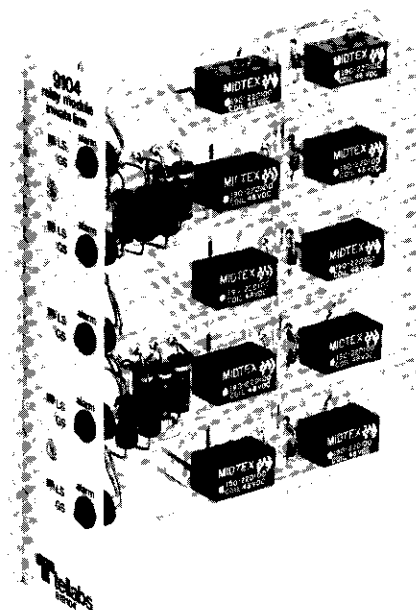

figure 1. 9104 INWATS Line Relay Module
1.01 The 9104 INWATS Line Relay Module (figure 1) provides five individual line relay circuits for on-hook and off-hook supervision of up to five INWATS customers' central office line circuits. Each line relay circuit on the 9104 functions to mark the connector terminal associated with the central office line circuit busy to incoming calls if the customer goes off-hook for any reason other than in response to an incoming call. This ensures that calling parties will receive a proper busy indication if the INWATS customer's telephone is off-hook (not in response to an incoming call) at the time an incoming call is made. The 9104 also prevents the associated line usage meter from operating under such circumstances, thereby ensuring that the INWATS customer is not billed for line usage except when answering calls.